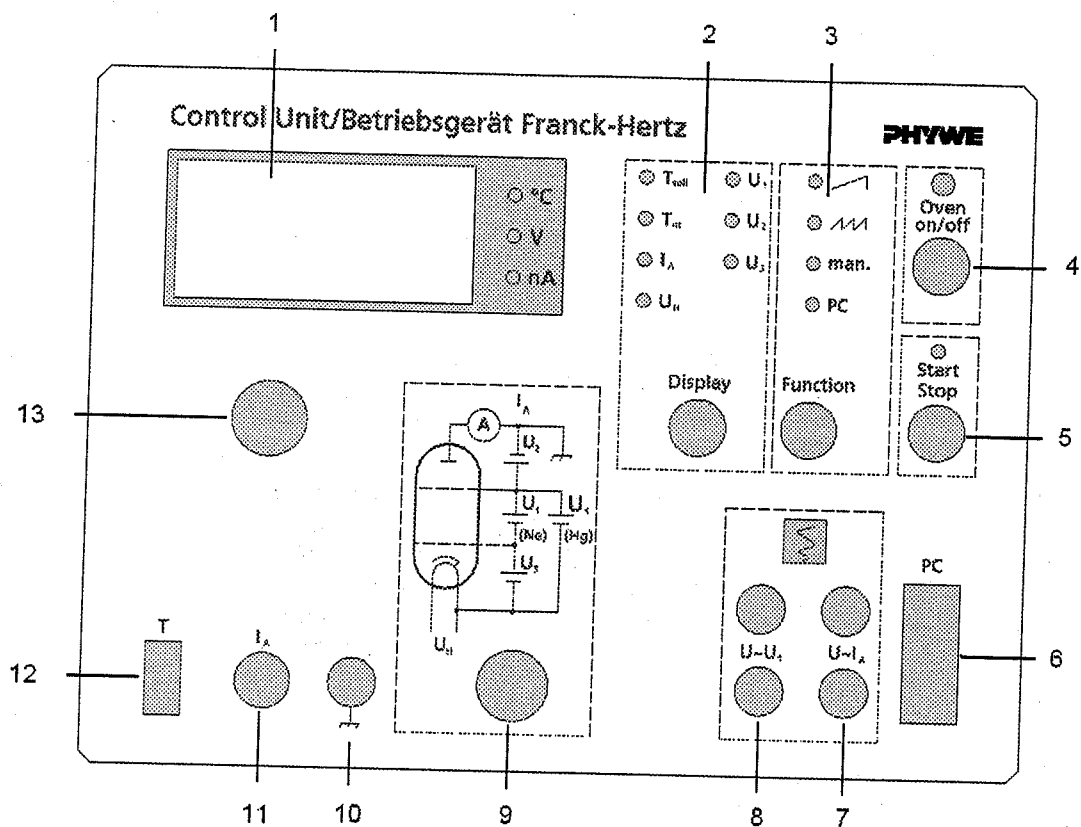

Fig.: 2 Function and operating elements of Franck-Hertz Control Unit
3.1 Function and operating elements (see Fig. 2)
- 7 Pair of 4 mm sockets "U~IA" Analog output (Y): Voltage proportional to the anode current.
- 8 Pair of 4 mm sockets "U~U1" Analog output (X): Voltage proportional to the accelerating voltage U_1 .